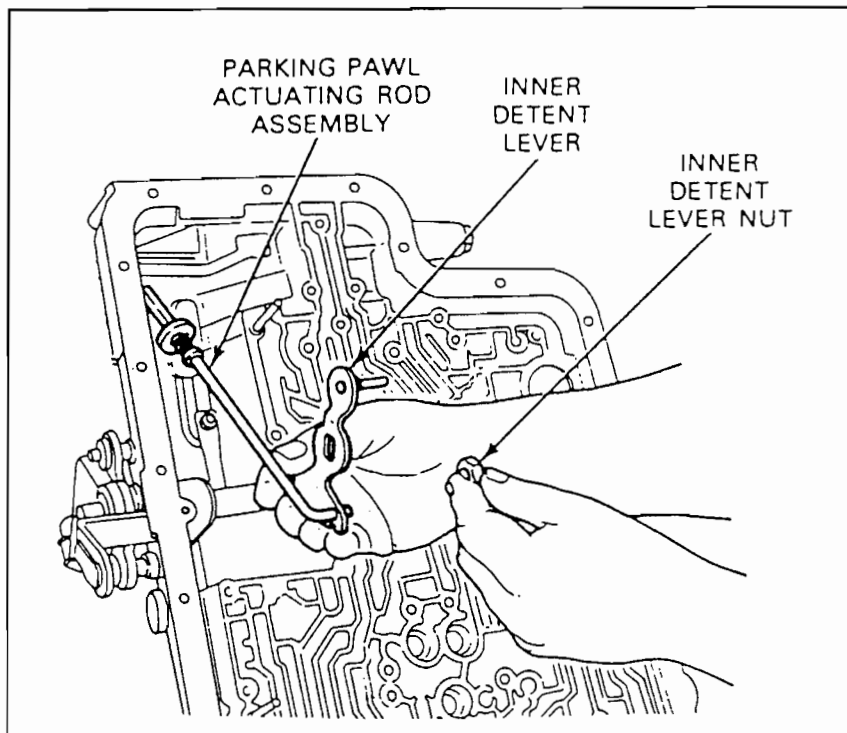

FIGURE 4
4. Remove detent rooster cone and park actuating rod (See Figure 4).